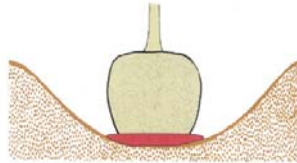

Figure 22. Stabilize the tree by firming a small ring of backfill soil around the base of the root ball.
- e) For stability, firm a shallow ring of soil around the bottom of the root ball. [Figure 22]